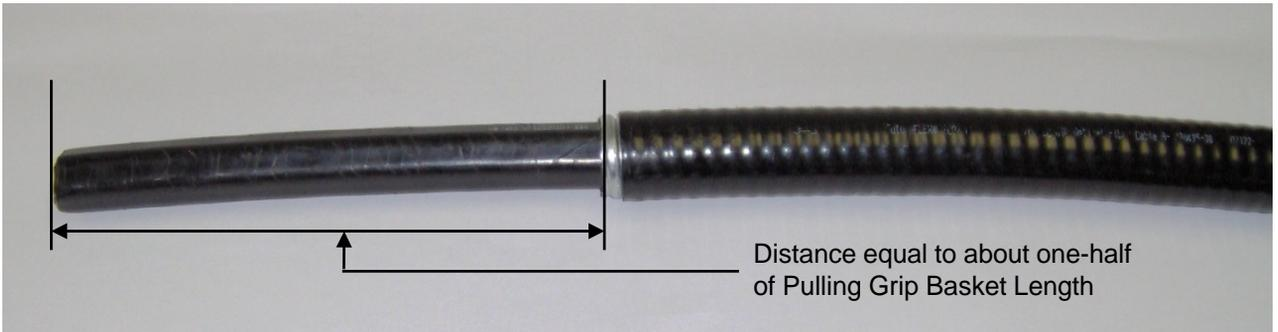

Figure 8
6.5 Unravel the Interlock Galvanized Steel wrap back to where the Polyethylene outer jacket was removed. Bend the steel wrap back and forth until it breaks and remove it from around the core cable. These steps expose a length of core cable beyond the armor. **See Fig. 8.**